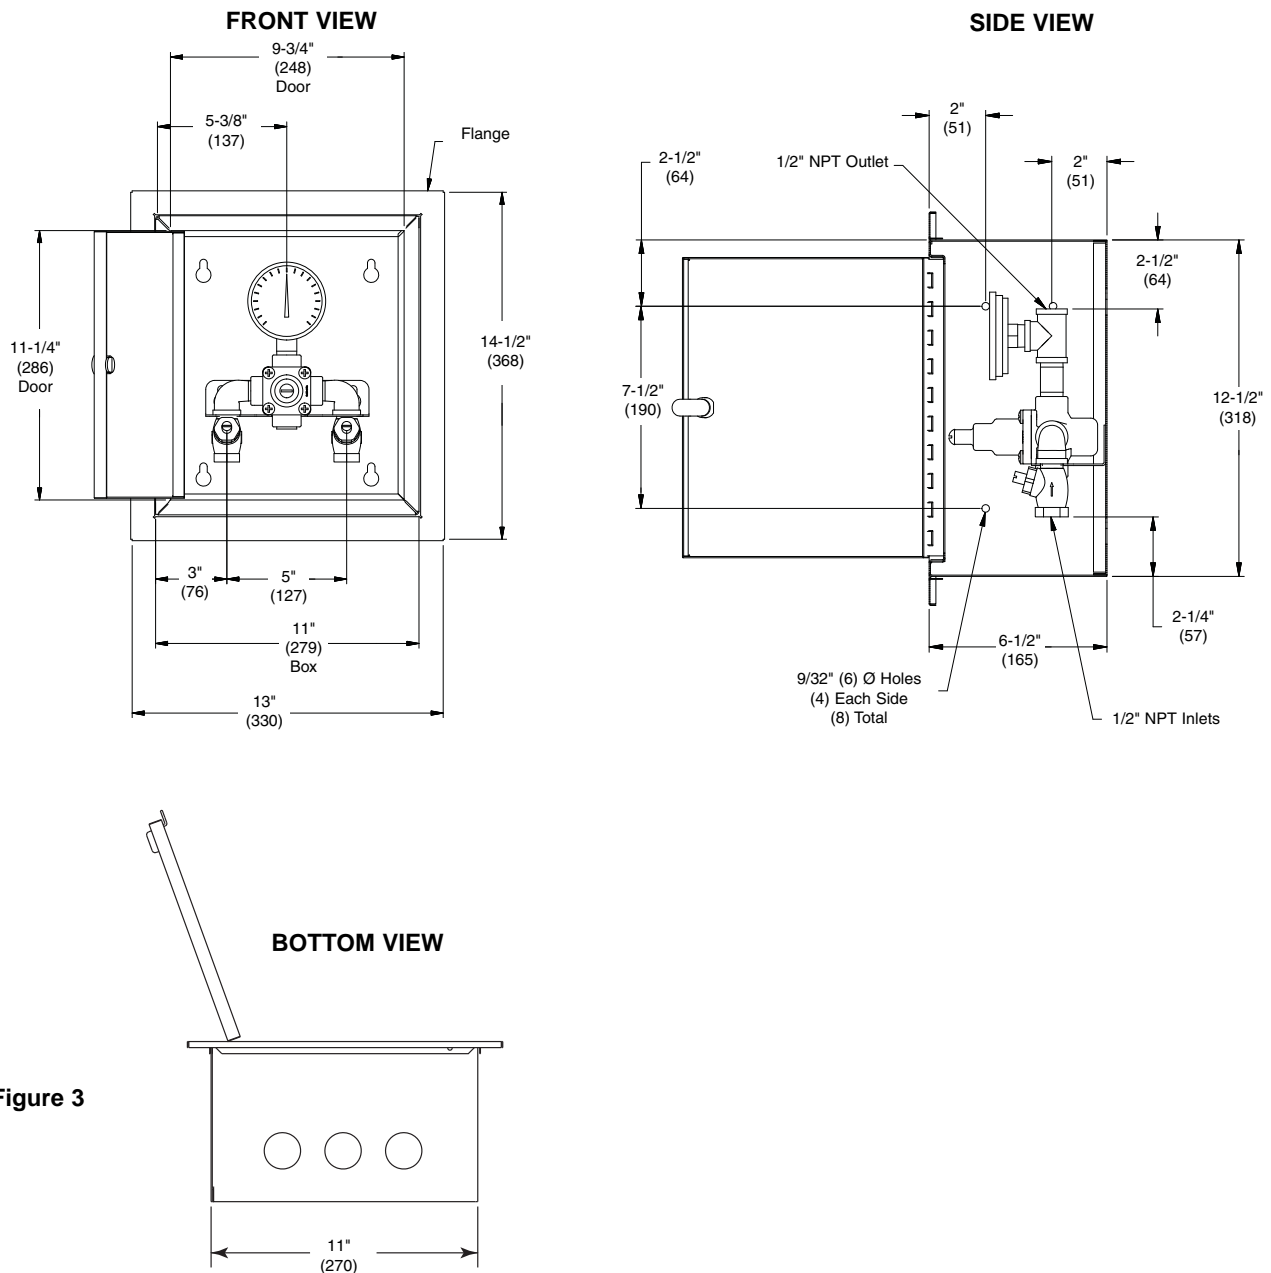

Figure 3
1. Rough in a 11-1/2" W x 13" H hole in the wall for the cabinet (see Figure 3).
2. Measure and mark the cabinet mounting hole locations at the dimensions shown in Figure 3. Install four 1/4" wall anchors, if required (supplied by installer).